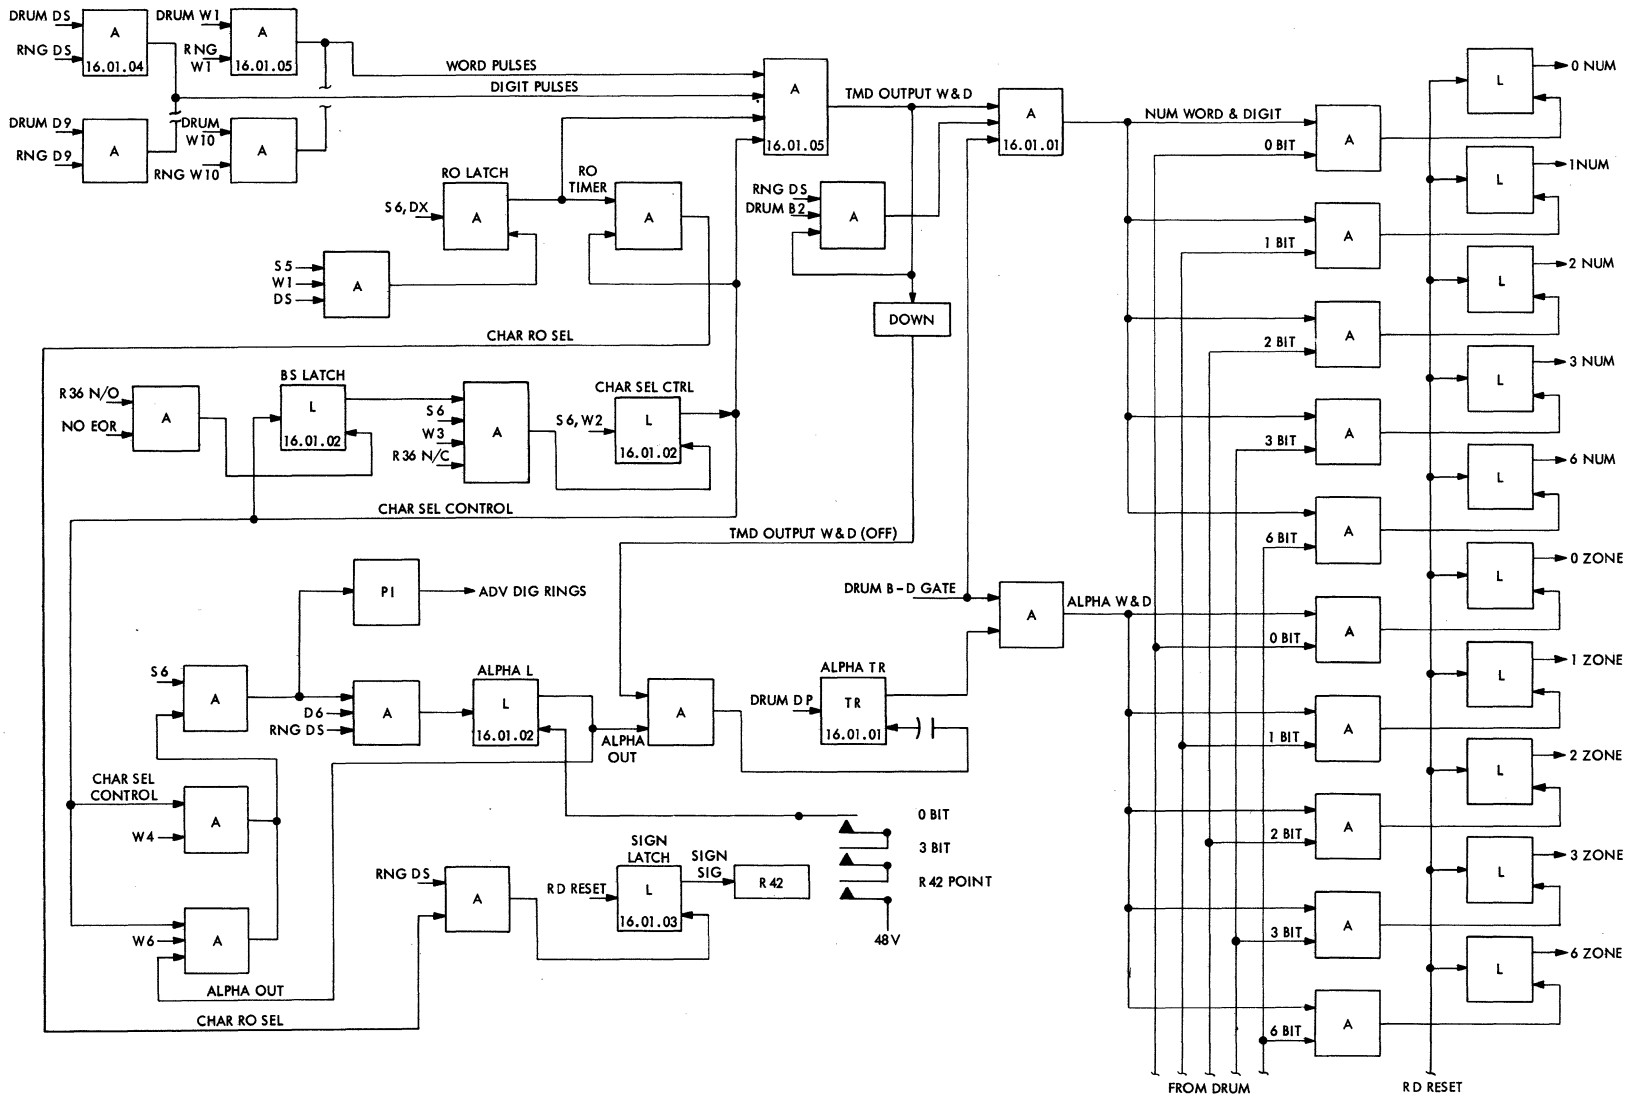

FIGURE 4.4-9 POSITIVE LOGIC CHART - ALPHABETIC WORD TRANSMISSION
To type an alphabetic word in the proper sequence, it is necessary to read off the digit one-zero combination first, followed by the digit three-two combination, and so on. The console digit ring is used to gate the drum pulses so that they are sent to be typed as just outlined. In this particular case, the console digit ring is advanced two digit ring positions during an advance cycle. The positions of the console digit ring that are used are the following: DS, D1, D3, D5, D7, D9. These positions, with the exception of the DS position, correspond to every numeric position of all the two-digit alphabetic representations in any one alphabetic word. The console digit ring, therefore, allows only the numeric position of a two-digit alphabetic representation to enter the typewriter. The logic used is as shown in Figure 4.4-9.
Step 1 - Alpha Sign Recognized, (Figure 4.4-9, 10, 11)
#### Step 2 - Advance Console Digit Ring Two Positions (Figures 4.4-9, 10)
#### Step 3 - Transfer Drum Digit Pulses (Figures 4.4-9, 10, 11)